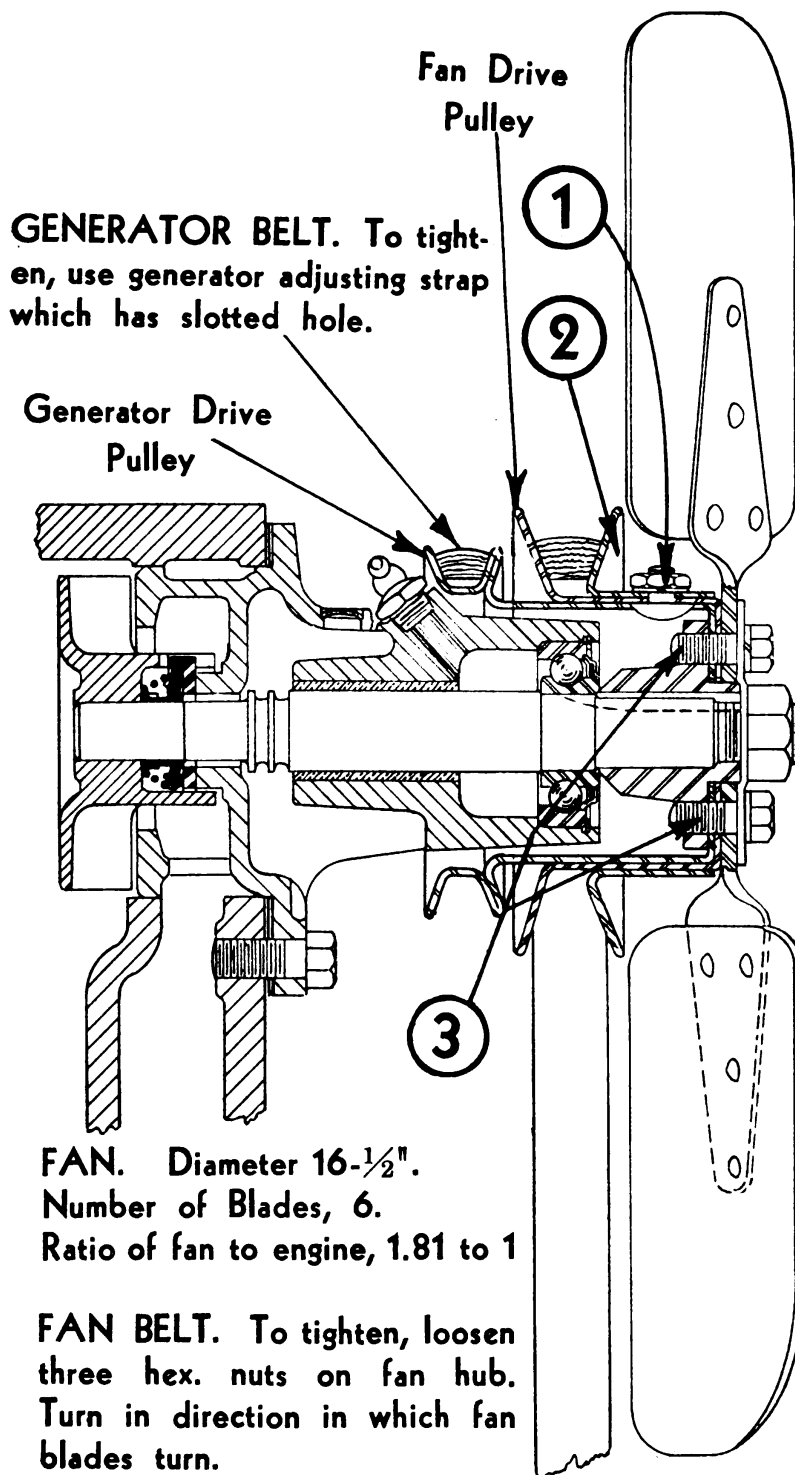

Fig. 21. Water Pump and Fan Assembly
Loosen three hexagon nuts, one of which is shown at 1, Fig. 21 and to tighten, turn the front half of the pulley (2) in the direction in which the fan blades turn. The tension should be just enough to take up any looseness or slack. A properly adjusted belt can be easily depressed 1" by the thumb midway between the pulleys. Too tight a belt causes excessive belt wear, excessive load on the bearings, and does not aid cooling. A V-belt can be run much looser than a flat belt for equal slippage, due to the wedging action of the pulleys. After adjusting the belt, tighten hexagon nuts.
4. On the fan pulley, loosen 3 hexagon nuts 1, Fig. 21 which hold the adjustment of the fan belt tension shown at 2, Fig. 21.
1. Loosen three hexagon adjusting nuts 1, Fig. 21 that tighten or loosen fan belt.
4. Remove 4 cap screws 3, Fig. 21 which hold fan blades on fan drive pulley. Drop fan blades in bottom of radiator.